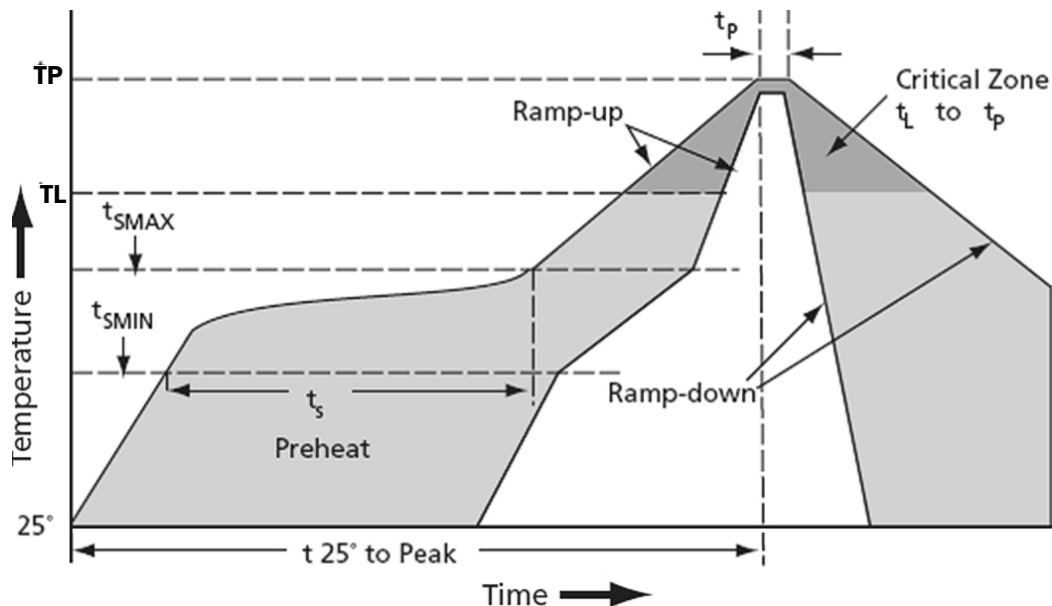

Figure 2: EnerChip Solder Reflow Profile
- The recommended solder reflow profile is shown in Figure 2 below; refer to Figure 3 Parameters table for time and temperature requirements. Whenever possible, use lower temperature solder reflow profiles.